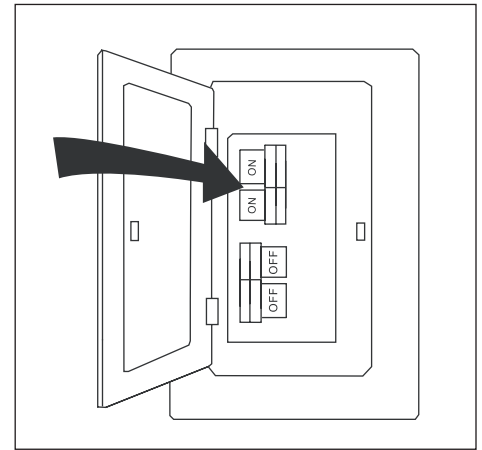

Figure 5.12
12. Turn on power to fan at breaker box and the wall switch (Figure 5.12).